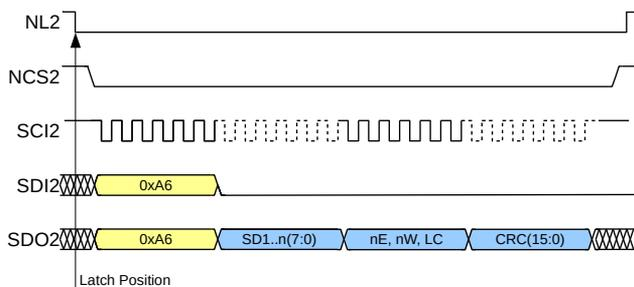

Figure 32: Sensor data read with latching triggered by NL2 (IF_MODE = 0x5)
2. IF_MODE = 0x5: sample point defined by falling edges NL2 (see Figure 32). NL must stay at zero until the sensor data was read out using command SDAD transmission.